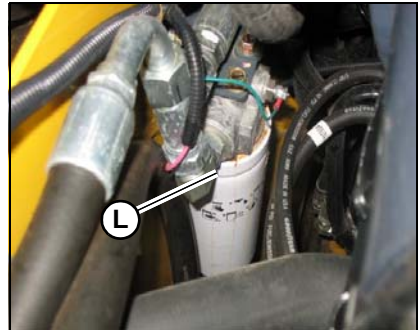

Figure 109 – Hydraulic Oil Filter
5. Unscrew and remove hydraulic oil filter (L, Figure 109).
7. Unscrew and remove the hydraulic oil filter (L, Figure 109).
8. Clean the surface of the filter housing where the element seal contacts the housing. Put clean oil on the rubber gasket of the new filter (L, Figure 109).
9. Install and tighten the filter (L, Figure 109) 3/4 of a rotation past the point where the gasket contacts the filter head.